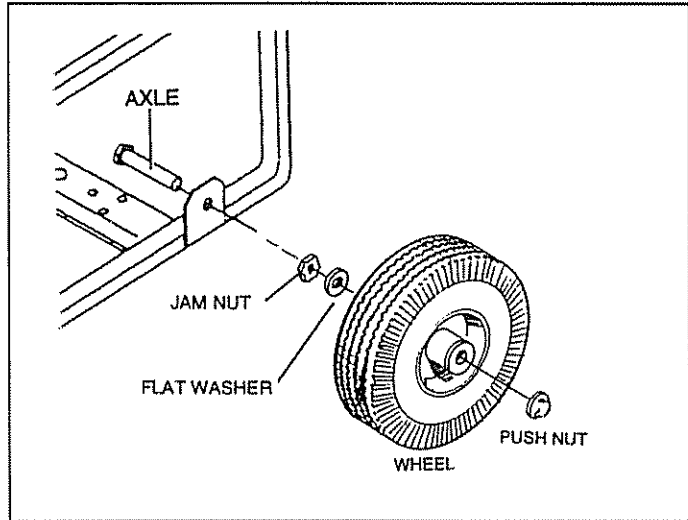

FIG. 1
- Prop up the engine end of the main unit. This will allow you to slip each axle pin into the holes provided on the side of the base (Fig. 1)